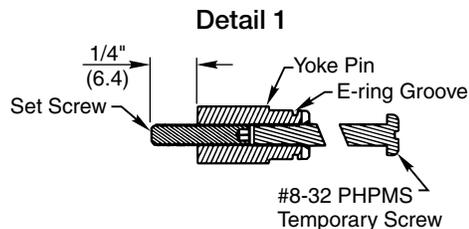
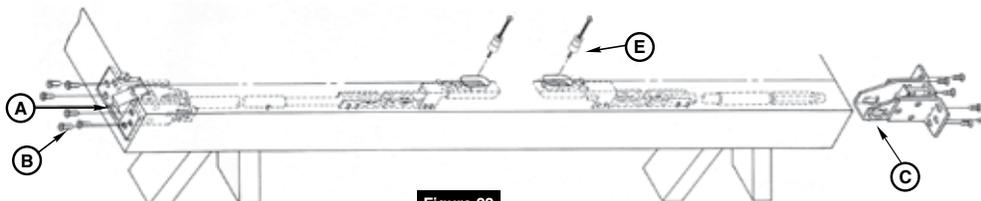

Figure 21
Figure 22
- A. Slide rod assemblies into door. (Figure 22)
- B. Attach top latch with six (6) #10-24 X 1/2" PFHMS.
- C. Install bottom bolt case with six (6) #10-24 X 1/2" PFHMS.
- D. Thread set screw into yoke pins (Insert with hex socket end inside pin). Thread #8-32 x 2" PHPMS screws into slotted end of yoke pins until seated to hex head set screw. (Detail 1 - Figure 21)
- E. Install two (2) yoke pin assemblies into arm and bracket assemblies.